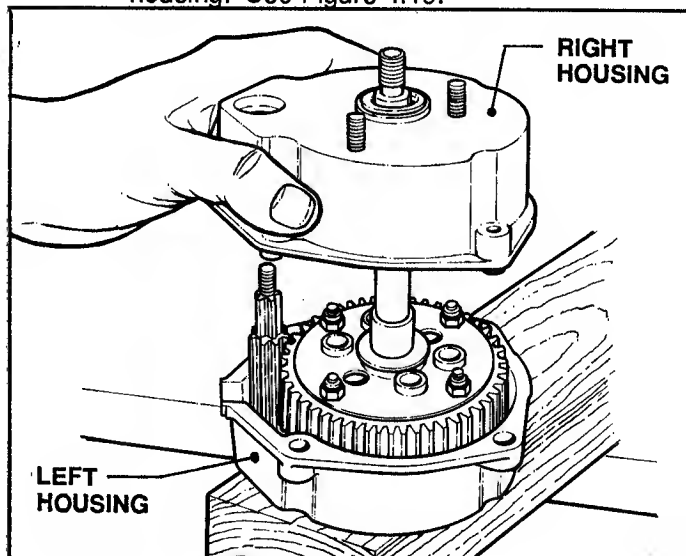

FIGURE 4.19
15. Guide right housing into position on left housing. See Figure 4.19.